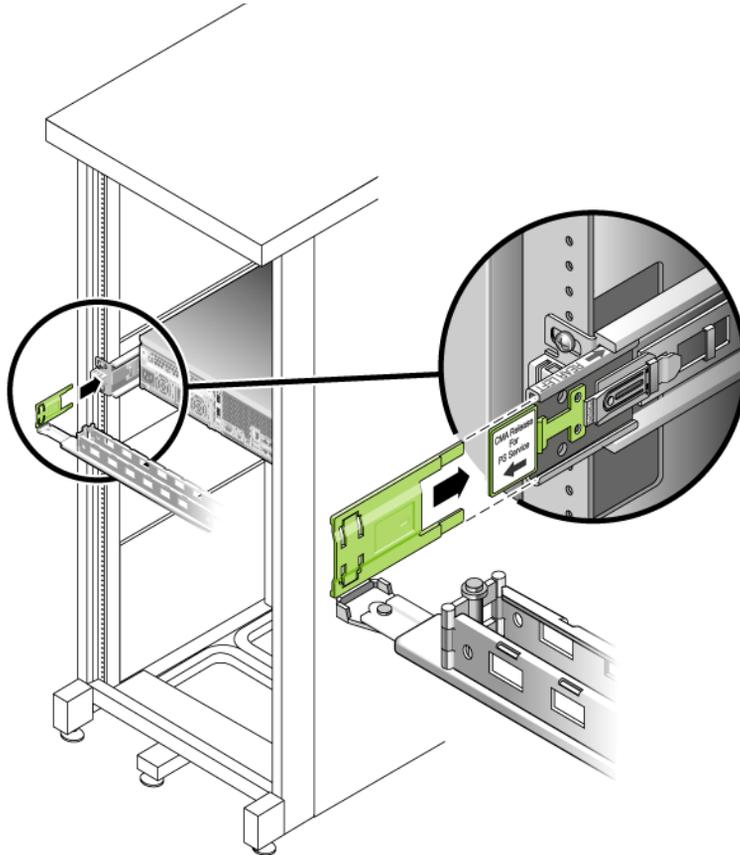

FIGURE 2-22 Mounting the Left Side of the Slide Rail
4. Insert the hinged plastic connector at the left side of the CMA fully into the CMA rail extension (FIGURE 2-22).